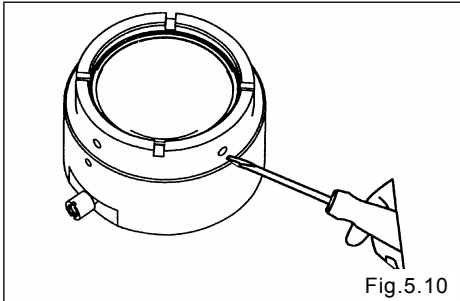

Fig.5.10
- Insert a flat blade screwdriver into the hole (four) of the air chamber to push up the diaphragm. [Fig. 5.10]